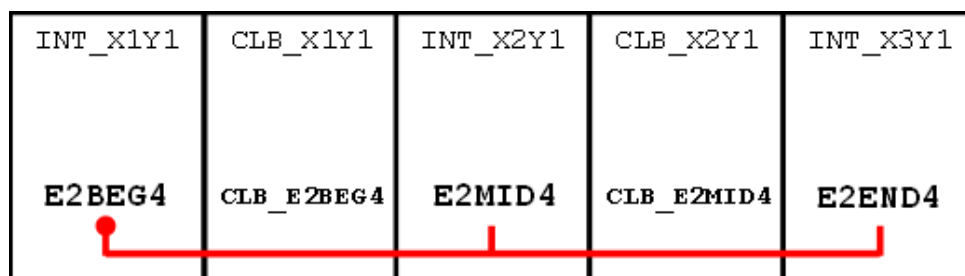

Figure 17: A wire in an FPGA illustrating how each part of the wire has a different name depending on the tile it is located in
2. **Non-PIP Connections:** Connect the same physical wire across two different tiles. In general, wires stretch across multiple tiles in a device, having a different name in each tile. This is demonstrated in Figure 17. The example wire shown in the figure spans 5 different tiles, but has a different name in each. To save space, only the source and sink wire segments are kept in RapidSmith data structures (i.e. INT_X1Y1/E2BEG4, INT_X2Y1/E2MID4, and INT_X3Y1/E2END4). The source segment is connected to each sink segment through a non-PIP wire connection. It is also possible to have non-PIP connections within a Tile, but this is rare.